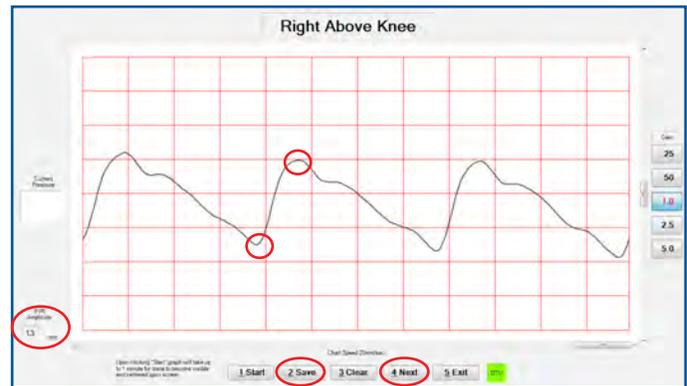

FIGURE 1.20 - Right Above Knee PVR - “Save” and “Next” Buttons
21. To record the amplitude (height measurement of the waveforms), click on the lowest point and then on the highest point of one of the waves. The amplitude will display in the bottom left “PVR Amplitude” box. Record the waveform amplitude and click “Save”, or press 2 (Figure 1.20).
22. Click “Next”, or press 4 (Figure 1.20) to move to the next location, Left Above Knee.